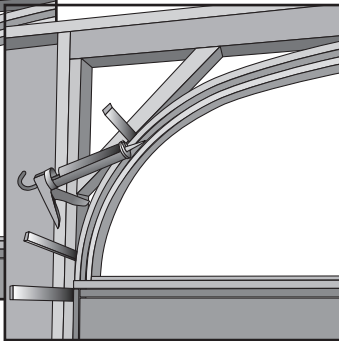

Fig. 39
- I. Apply a bead of caulk along the inside corner of the rabbeted jamb (**Fig. 39**).